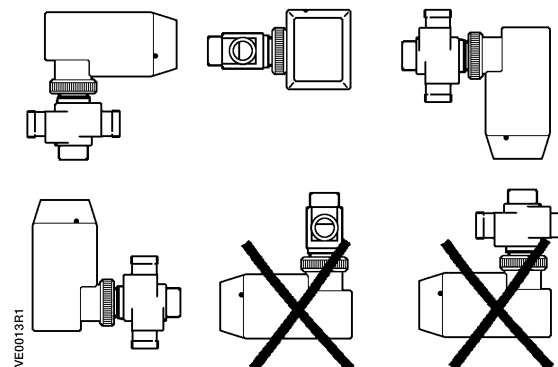

Figure 1. Mounting Positions.
- The assembly can mount in any position except with the actuator beneath the valve. *Figure 1* shows allowable mounting positions.